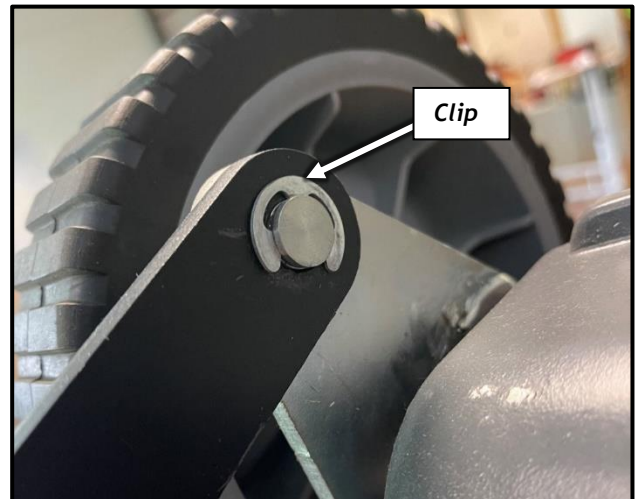

Figure 5
5. Remove the clip off the Height Adjust Bar by the front tires using a Flat Head Screwdriver. (Figure 5).